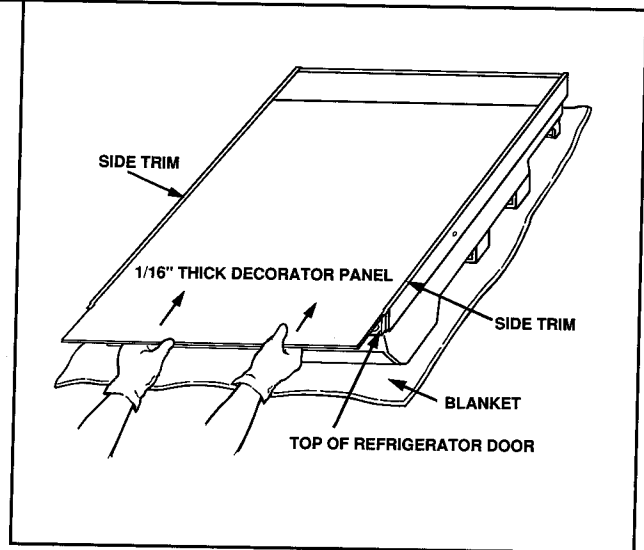

Figure 69
- b. Slide decorator panel in place between side trims. Do not remove peel-off paper from double back tape on trim. First practice installing top trim to avoid mistakes. See Figure 69.